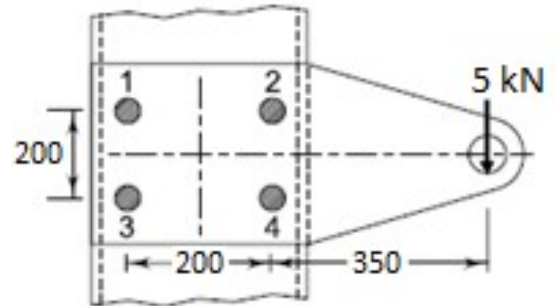

Fig.5
7. A steel plate subjected to a force of 5 kN and fixed to a vertical channel by means of four identical bolts is shown in Fig.5. The bolts are made of plain carbon steel 40C8 ($S_{yt} = 420 \text{ N/mm}^2$) and the factor of safety is 2. Determine the diameter of the shank.